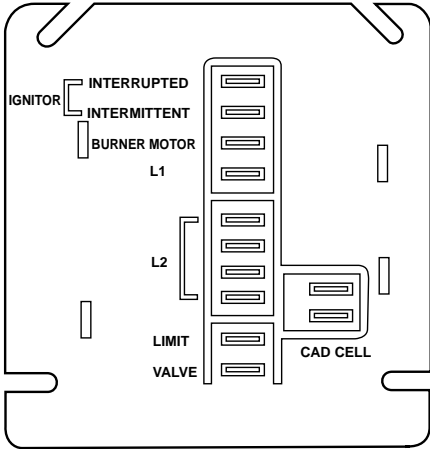

Fig. 2. Wiring terminals.
2. Before mounting the control, make line voltage connections as shown in Fig. 2 through 7. Splice lines with solderless connectors. Do not exceed load ratings shown on the device label.
2. After mounting, make low voltage connections to the screw terminals (see Fig. 2 through 7).